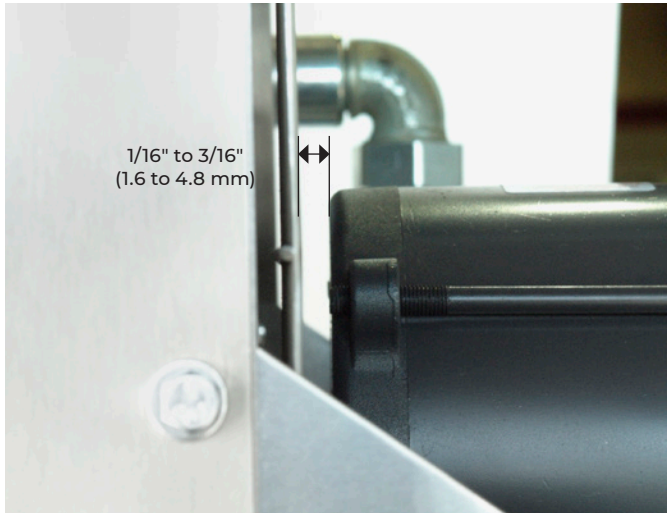

Figure 15
- 3.7 Simultaneously engage and tighten both ends of conduit #1 into enclosures. Leave a 1/16" to 3/16" (1.6 to 4.8 mm) gap between the motor and fan guard (see Figure 15, page 20). Adjust conduit #2 to center the fan in the shroud.